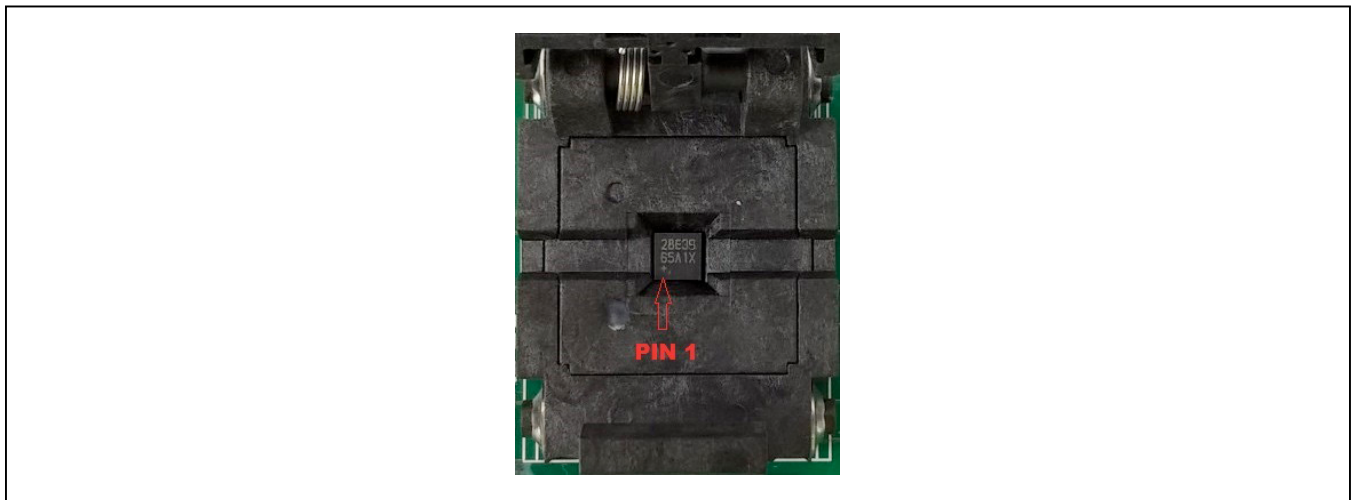

Figure 9. Orientation of the DS28E39 and DS2476 in the Burn-In Socket
- a) (Optional—Perform only if using the coprocessor): Open the 1st socket and insert a DS2476 into one of the cavities, as shown in Figure 9. **Note:** The plus (+) on the package must be on the opposite side of the marker in the socket.
- b) Open the 2nd socket and insert a DS28E39 into one of the cavities, per the same orientation shown in Figure 9.